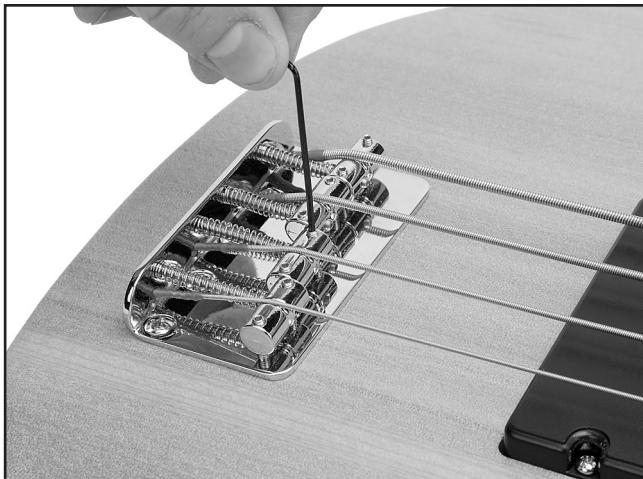

Figure 35. Adjusting string height.
- Use the included 1.5mm hex wrench to adjust the saddle height setscrews (**Figure 35**) until the string heights are correct.